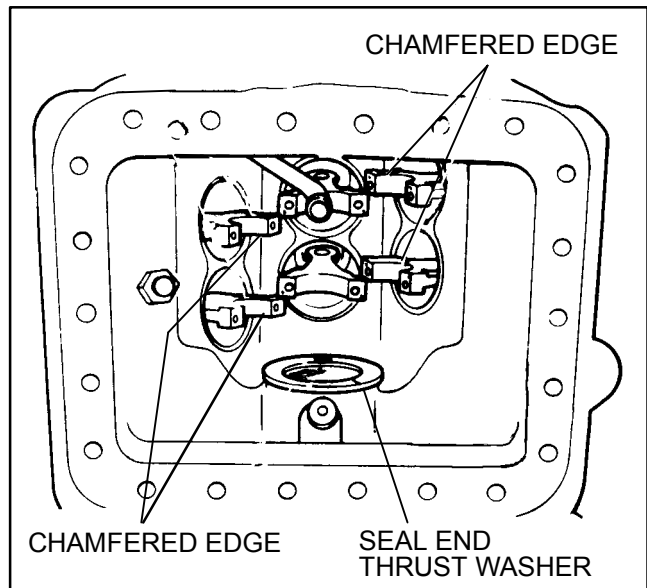

Figure 3-17. Installing Piston Rod Assemblies and Seal End Thrust Washer
- b. Install the piston and rod assemblies up through the bottom of the crankcase and into the cylinders. Allow pistons to extend beyond the top of the cylinder to enable installation of piston rings. Pistons must be installed so that the chamfer, on the connecting rod, faces toward the crankshaft journals. Center rods on each crankshaft throw may be installed in either direction. (See Figure 3-17)
- b. Install the seal end thrust washer on the dowel pin. (See Figure 3-17) Ensure piston rods are pushed out of the way and install the crankshaft.